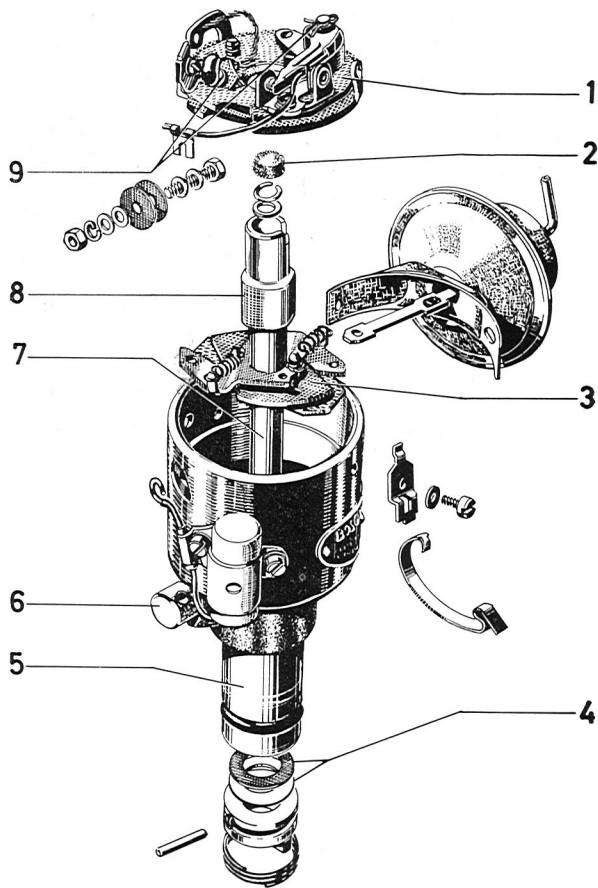

Fig. 3-102. Distributor lubrication
- Lubricate the distributor parts according to the instructions in Fig. 3-102.
4. Lubricate the distributor according to the instructions in Fig. 3-102.